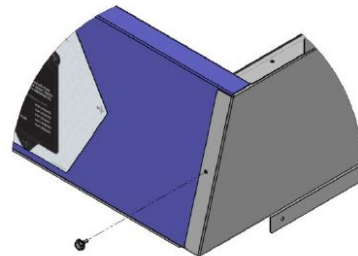

Figure 6: Secure rear panel to side panel with supplied No. 10 x 3/8" screw.
6. Secure the rear panel to the side panel using the supplied No. 10 x 3/8 screws in the aligned pre-drilled holes as shown in Figure 6.
5. Secure the rear panel to the side panel using the supplied No. 10 x 3/8" screws in the aligned pre-drilled holes as shown in Figure 6.